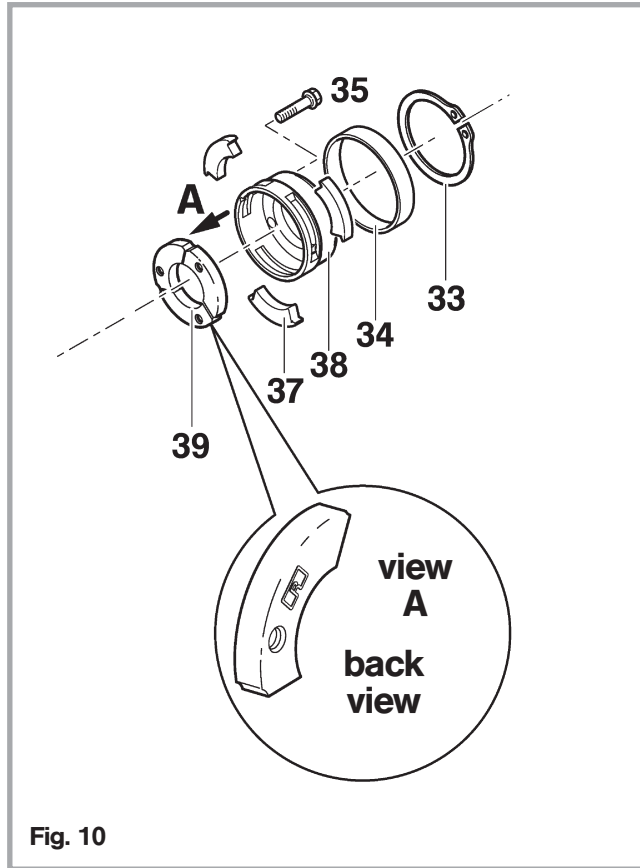

Fig. 10
11. Replacement of the bearing/the springs/ the fastening segments (see fig. 10)
- Loose 4 hexagonal bolts (31)
- Remove hydraulic unit (30) together with spring housing (32)
- Remove circlip (33) with circlip pliers A1 and retaining ring (34)
- Unscrew 3 temporary bolts (35) from the spring housing (32) (width across flats 17 mm)
- Screw 3 temporary bolts (35) into the clamping bush (37) step by step until stop position achieved (ca. 80 Nm) and until 3 clamping keys (38) can easily be taken out
- Unscrew once again 3 temporary bolts (35) and withdraw the clamping bush (37), then remove 3 fastening segments (39)
- Remove thrust washer (40), rubber buffer (41), spring cap (42) from the drawbar shaft (44)
- Withdraw the coupling from the crossbar (T)
- Take off the spring cap (46), support plate (45) from attachment bearing (43)